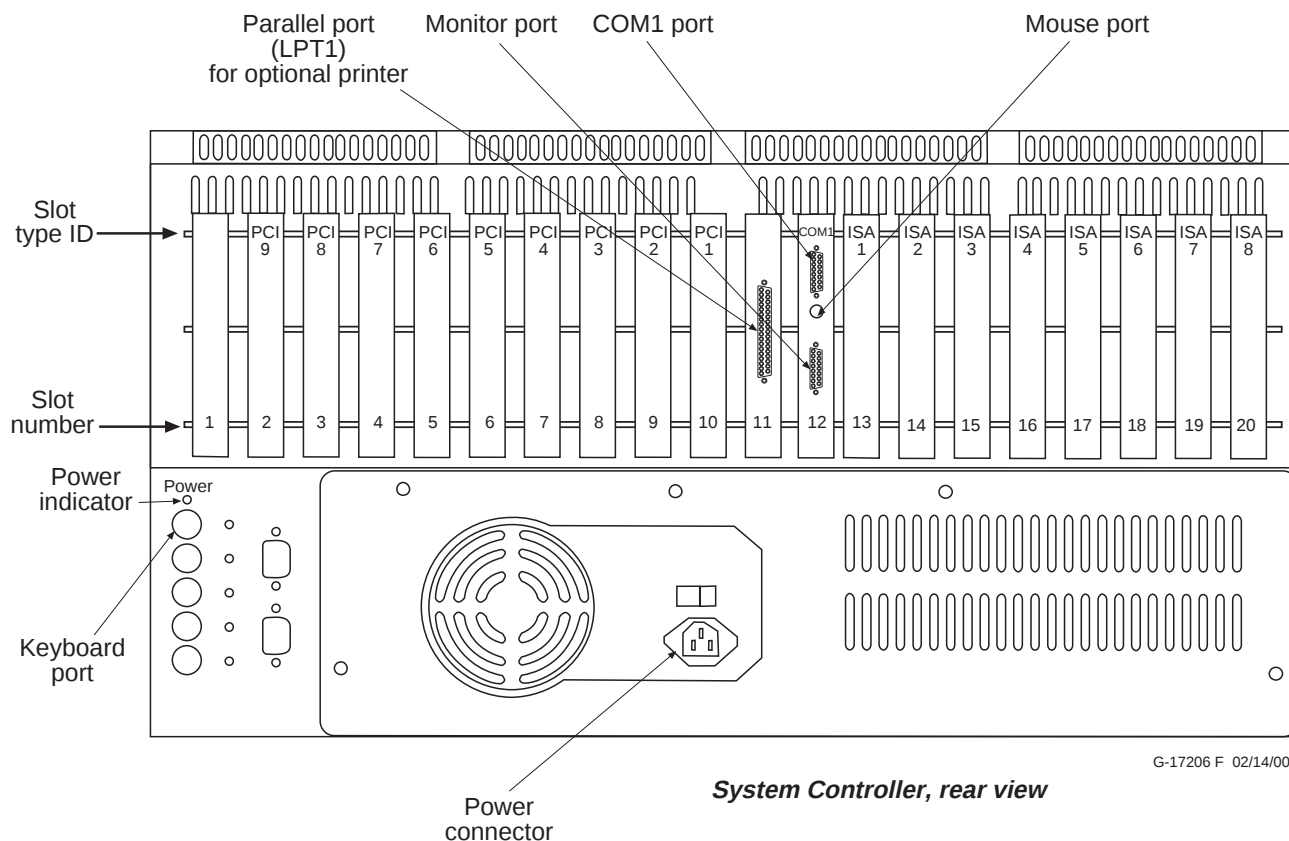

Figure 3-3 System Controller connectors for monitor, keyboard, touchpad, and power
After mounting the components in the rack, connect the keyboard, monitor, touchpad cables, and printer (if used) to the ports shown in Figure 3-3:
5. Provide power to the monitor and System Controller (110 Vac, 60 Hz). Figure 3-3 shows the Controller power connector.